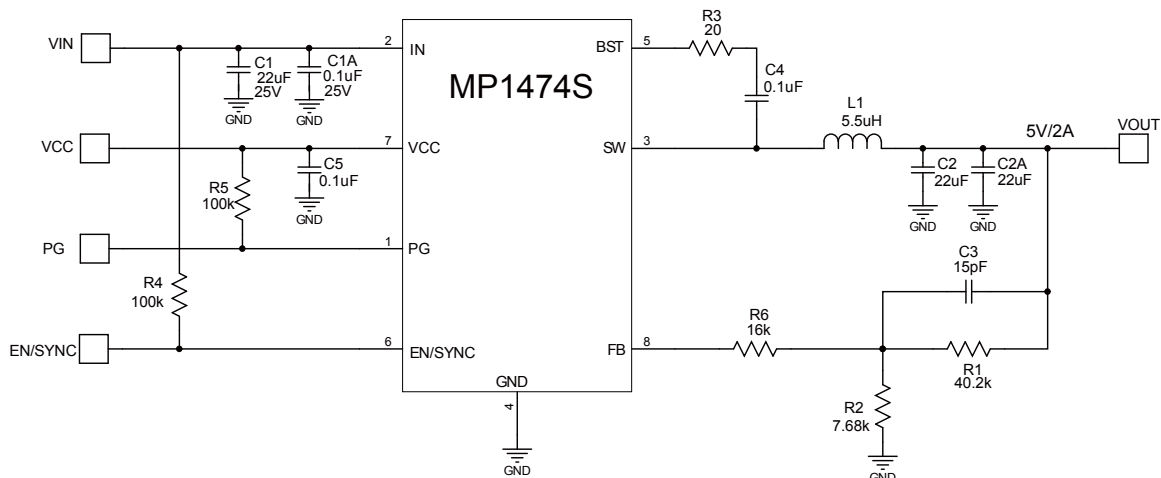

Figure 10. 12V_{IN}, 5V/2A Output
- 9) The recommended layout is based on Figure 10 in the “Typical Application circuit” section on page 17.